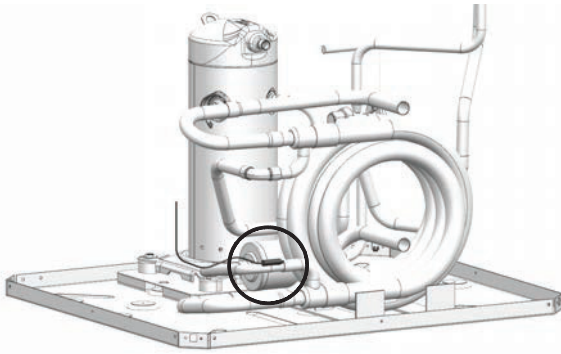

Fig. 44 — Waterside Freeze Protection Sensor
- Evaporator freeze protection sensor, mounted between the thermal expansion device and the evaporator, monitors refrigerant temperature between the evaporator coil and thermal expansion valve. If temperature drops below or remains at freeze limit trip for 30 seconds, the controller will shut down the compressor and enter into a soft lockout condition. The default freeze limit trip is 26°F. See Fig. 44 and 45.